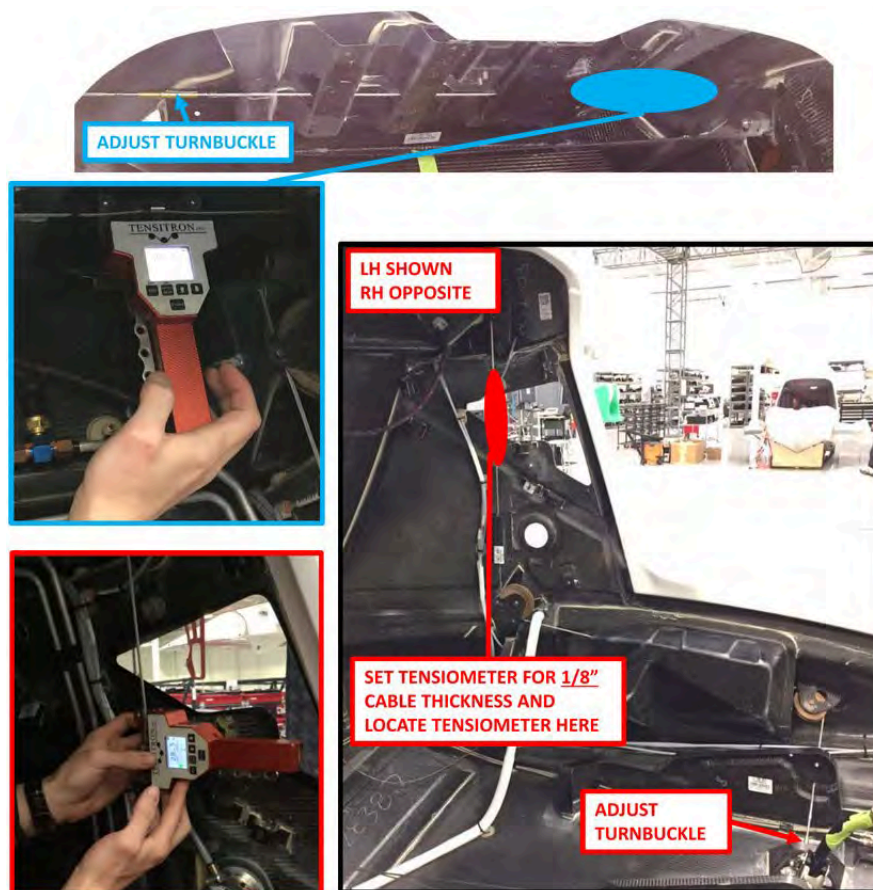

FIGURE 10-17
10. Use a tensiometer (upper cable thickness = 3/32 in, LH and RH fuselage cable thickness = 1/8 in) to rig the pilot side fuselage control cable, the copilot side fuselage control cable, and the upper control cable. Achieve the following, refer to Figure 10-17: